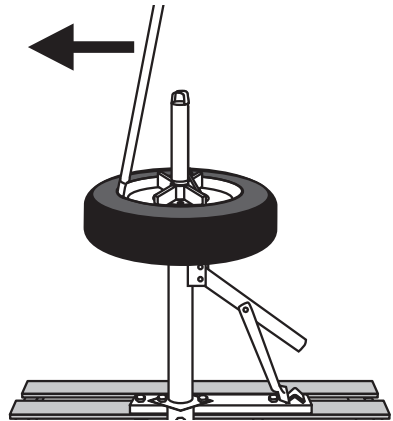

Figure 17
9. Depending on the flexibility of rubber (and the amount of bead lubricant used), you may not to switch the Bar around and use the flat edge of Bar to wedge the last sections of the bead under the rim. See Figure 17, below.